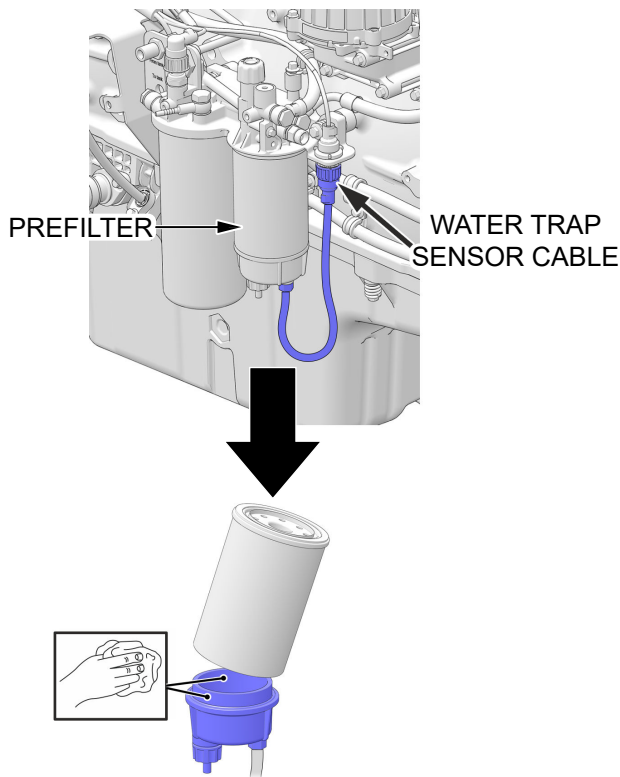

Figure 65. Fuel Prefilter Replacement
1. Remove the **cable** (Figure 65) from the **water trap sensor**.
2. Remove the **prefilter** (Figure 65) from the filter housing. Collect any spilled fuel in a suitable container.